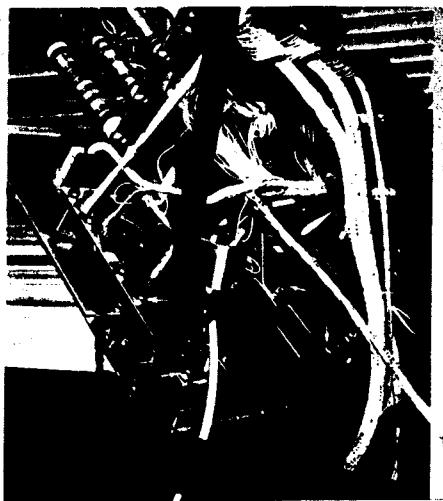

FIG. 20.1.1.
20.1.1. Remove the blank cover from the front panel of the generator by removing the four nuts according to fig. 20.1.1.